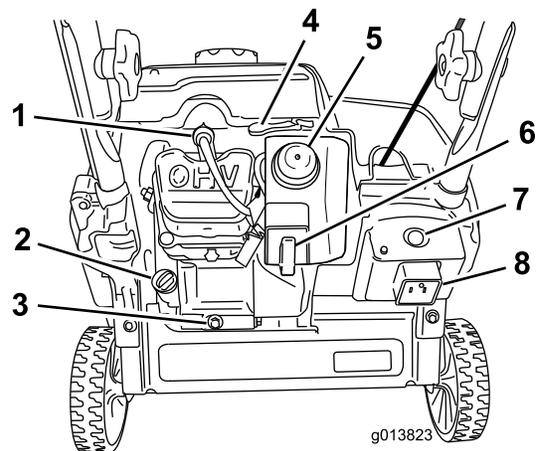

Figure 11
2. Clean around the oil-fill cap (Figure 11).
3. Clean around the oil-fill cap (Figure 11).